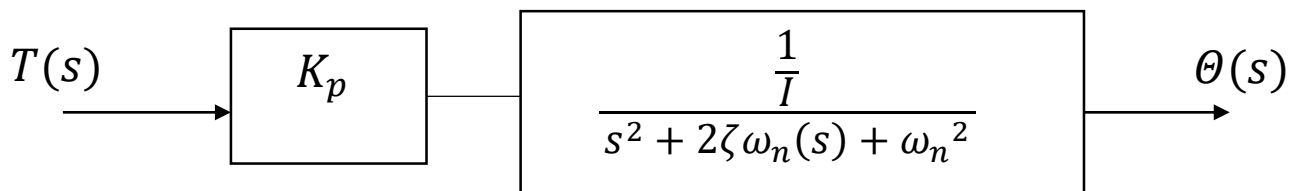

Figure 3
4. In block diagram form, you are now making the system look like Figure 3 below: